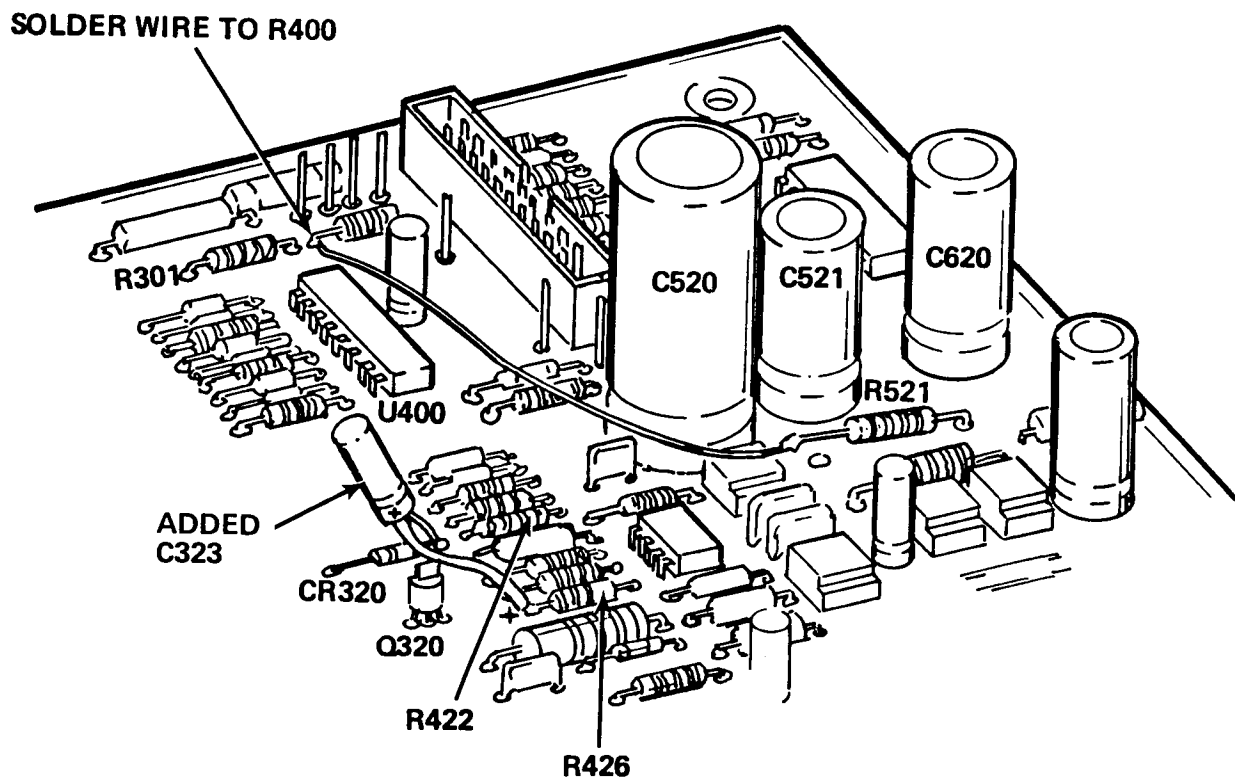

Figure 17. CRT Driver circuit board A8.
- () 10. Remove R521, a 2.7 Ω , resistor and replace with a 12 Ω , resistor, pn 315-0120-00, that is provided in this kit. Solder one lead of R521 to the circuit board pad from which R521 was removed nearest C620. Solder a length of blue 30 AWG wire to the remaining lead of R521. Solder the remaining end of the wire to the circuit board pad common to R400 nearest to R301, refer to Figure 17.